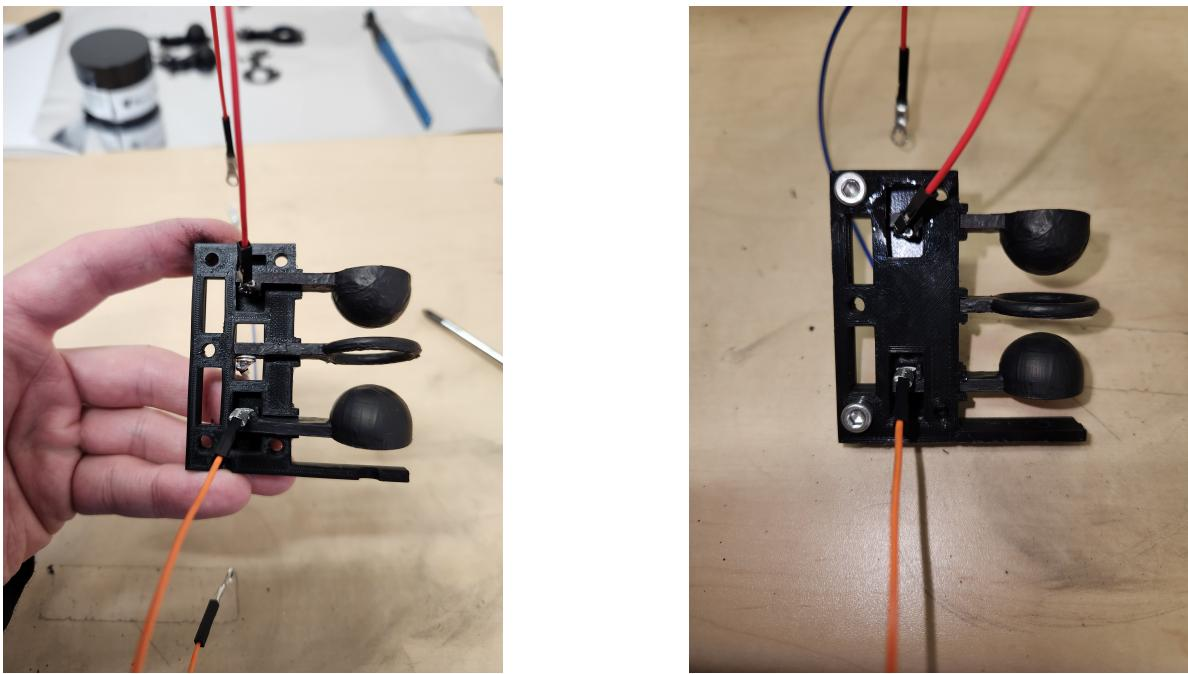

Figure 5: (left) attach the electrode to `electrode_holder.stl`, (right) securing with screws
4. Attach the electrode to `electrode_holder.stl`, aligning as shown Fig. 5.